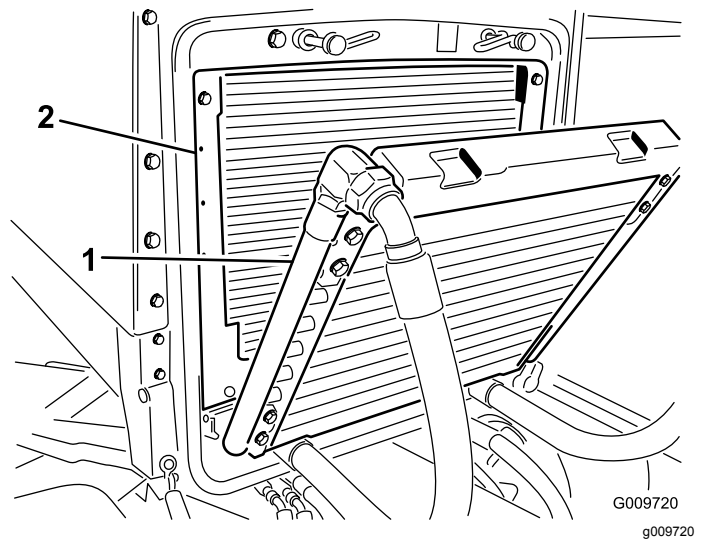

Figure 53
3. Pivot the oil cooler rearward. Clean both sides of the oil cooler and radiator area (Figure 53) thoroughly with compressed air. Start from the front and blow the debris out towards the back. Then clean from the back side and blow towards the front. Repeat procedure several times until all chaff and debris is removed.